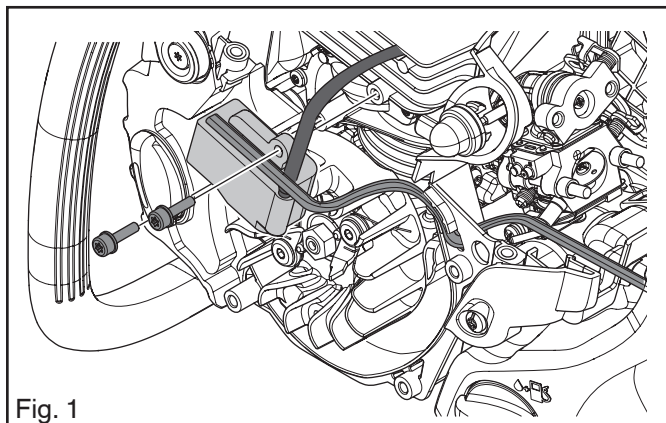

Fig. 1
5. Loosen the two screws and remove the ignition module. See Figure 1.
1. Attach the ignition module to the cylinder without tightening the screws. See Figure 1.